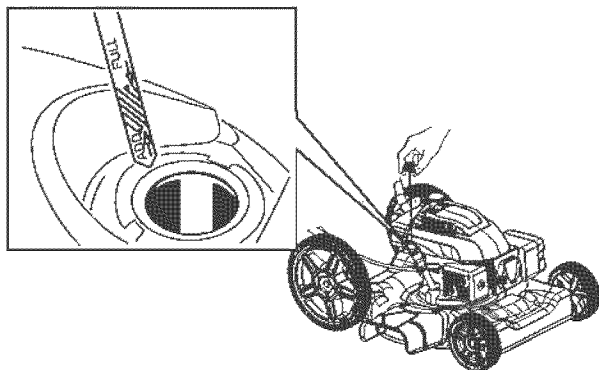

Figure 14
2. Remove the dipstick (Figure 14).